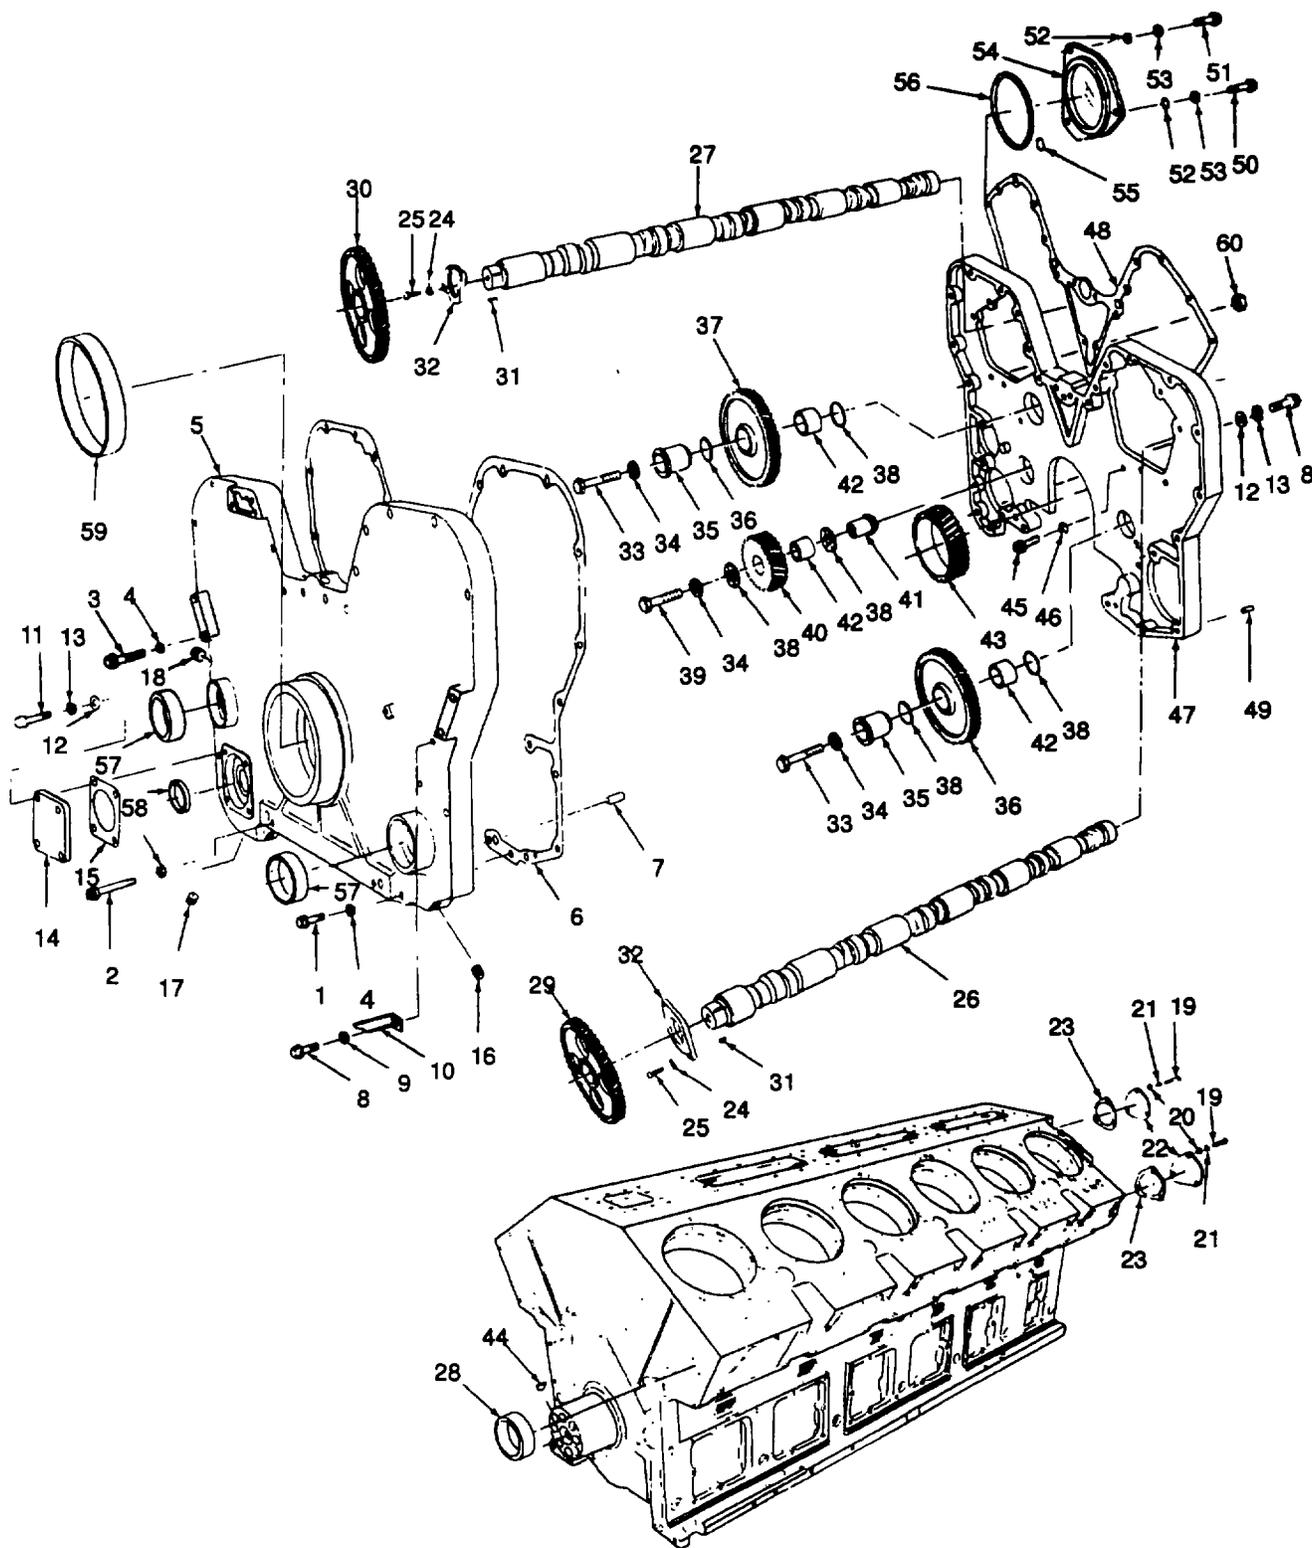

Figure 9-15. Removal and Installation of Camshafts, Bushings, and Timing Gears (Sheet 1 of 2)
- (7) Using puller kit 3376400, remove the camshaft gears (29 and 30, Figure 9-15) and keys (31), if damaged.
- (8) If the gears have been removed in step NO TAG, above, straighten the tab on the lock-plates (24), remove the capscrews (25) and remove the thrust plates (32). Discard the lock-plates.
- (9) Remove the capscrews (19), washers (20), lockwashers (21), and remove the rear camshaft covers (22). Remove and discard the gaskets (23).
- (10) Install the camshaft pilot ST-1313 on the rear of the camshaft.